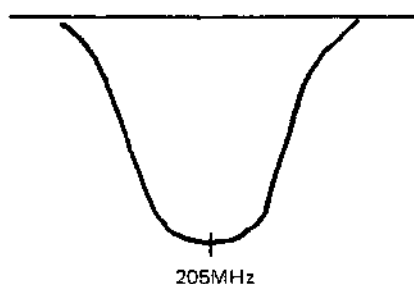

Fig. 21
9. Adjust the wave center to 205MHz with L11 (Fig. 21).